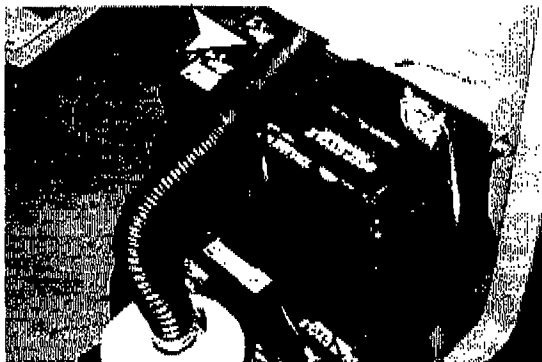

FIG. 5
7. Reconnect vacuum hose to recovery tank snout as shown (Figure 5).